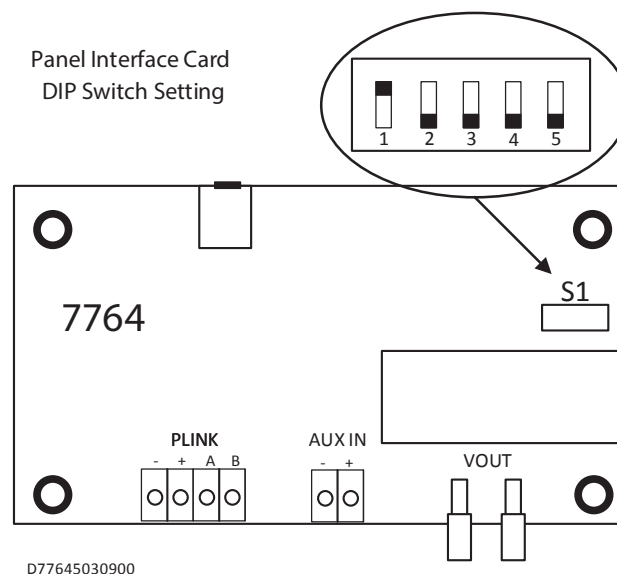

Figure 12. 7764 PIC P-Link Bus Address Switch Setting
7. Verify that the P-Link address on the 7764 PIC Card address is set to **1**. Check the S1 DIP switch shown in Figure 12 below. Switches must be in positions shown.